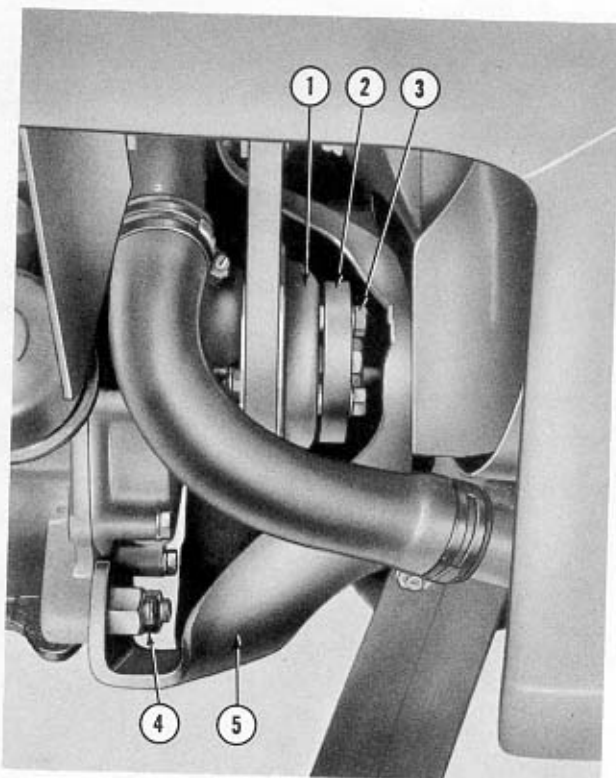
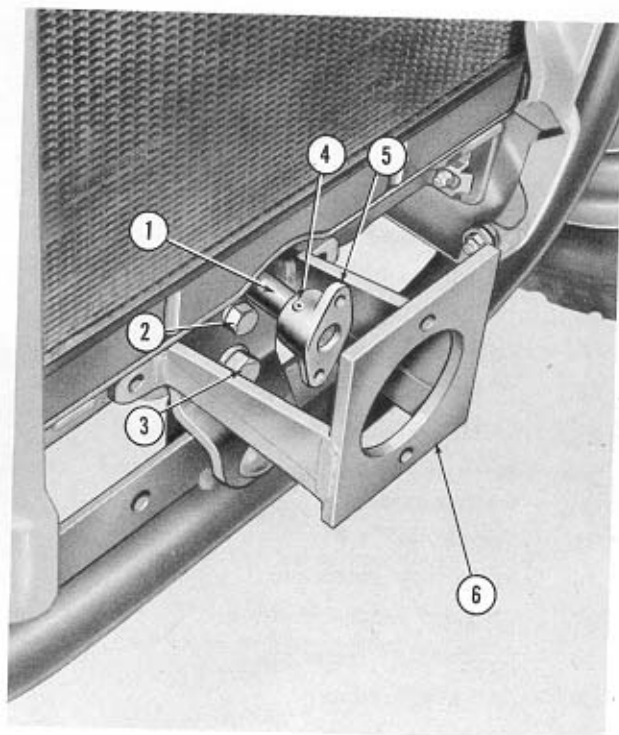
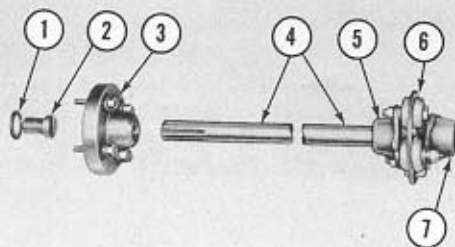
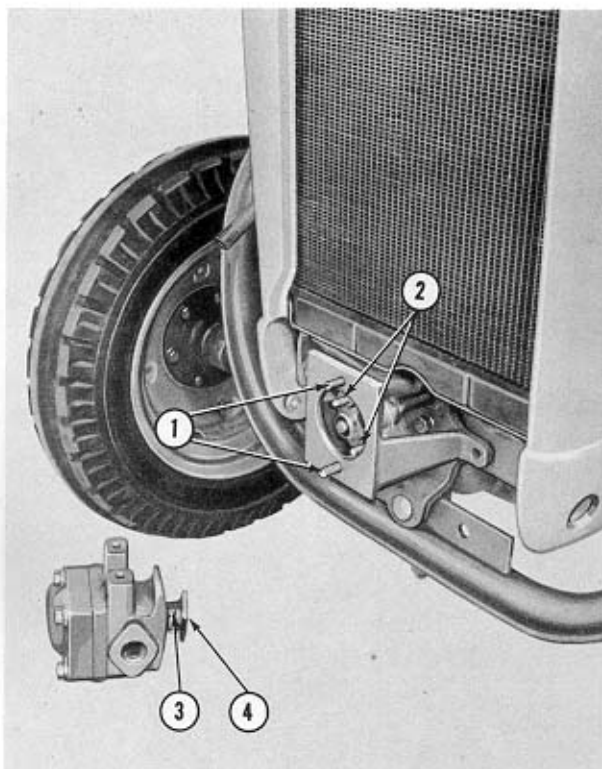

Figure 5
Figure 6
Figure 4
Figure 7
2. Attach the drive plate (2), Figure 5, to the tractor crankshaft pulley (1) as follows:
- b. Fit the flatwasher (1), Figure 4, on the special cap screw (2), and install the cap screw in place of the crankshaft ratchet which was removed.
- c. Place the four  $\frac{7}{16}$ " x 1" cap screws and lockwashers in the drive plate (3), Figure 4.
- d. Position the assembly on the front of the crankshaft pulley (1), Figure 5, by working it through the opening (4) at the bottom of the engine suspension plate (5). Caution must be taken to position the drive plate without dropping the cap screws (3), Figure 5, from the drive plate or moving the crankshaft pulley (1). Make sure that all of the cap screws (3), Figure 5, are partially started in the holes of the crankshaft pulley before any attempt is made to tighten them securely.
- e. Use a thin wrench to tighten the cap screws (3), Figure 5.
3. Remove the radiator grille from the tractor and install the loader suspension bracket (6), Figure 6, as follows:
- a. Remove the hex head bolt (2), Figure 6, and lockwasher from the front of the tractor.
- b. Position the loader front suspension bracket (6), Figure 6, as shown. Insert both the  $\frac{1}{2}$ " x  $1\frac{1}{2}$ " hex head bolt (2), and the  $\frac{5}{8}$ " x  $1\frac{1}{2}$ " bolt (3) and lockwashers as shown.
4. Remove the flange (7), and coupling (6), Figure 4, from the pump drive shaft (4). Coat the shaft splines with grease and insert the shaft in the crank hole until it is firmly seated in the splined drive plate (2), Figure 5. Loosen the Allen screw (4), Figure 6, and position the flange (5), on the shaft (1) so that the end of the shaft lags about  $\frac{1}{8}$ " of being flush with the face of the flange.
- a. Attach the coupling (6), Figure 4, to the flange (5), Figure 6, with the bolts and lock-nuts provided.
- b. Install the flange (4), Figure 7, on the pump drive shaft with the Woodruff key. Do not tighten the Allen head screw (3), securely at this time.
- c. Attach the hydraulic pump to the mounting bracket loosely with the bolts (1), Figure 7.
- d. Reattach the flange (4), Figure 7, to the coupling with the two bolts (2) and locknuts provided.
- e. Tighten the pump mounting bolts (1), Figure 7. Make sure that the pump shaft is firmly seated in the splined drive plate and tighten the Allen head screw (3), Figure 6, securely.